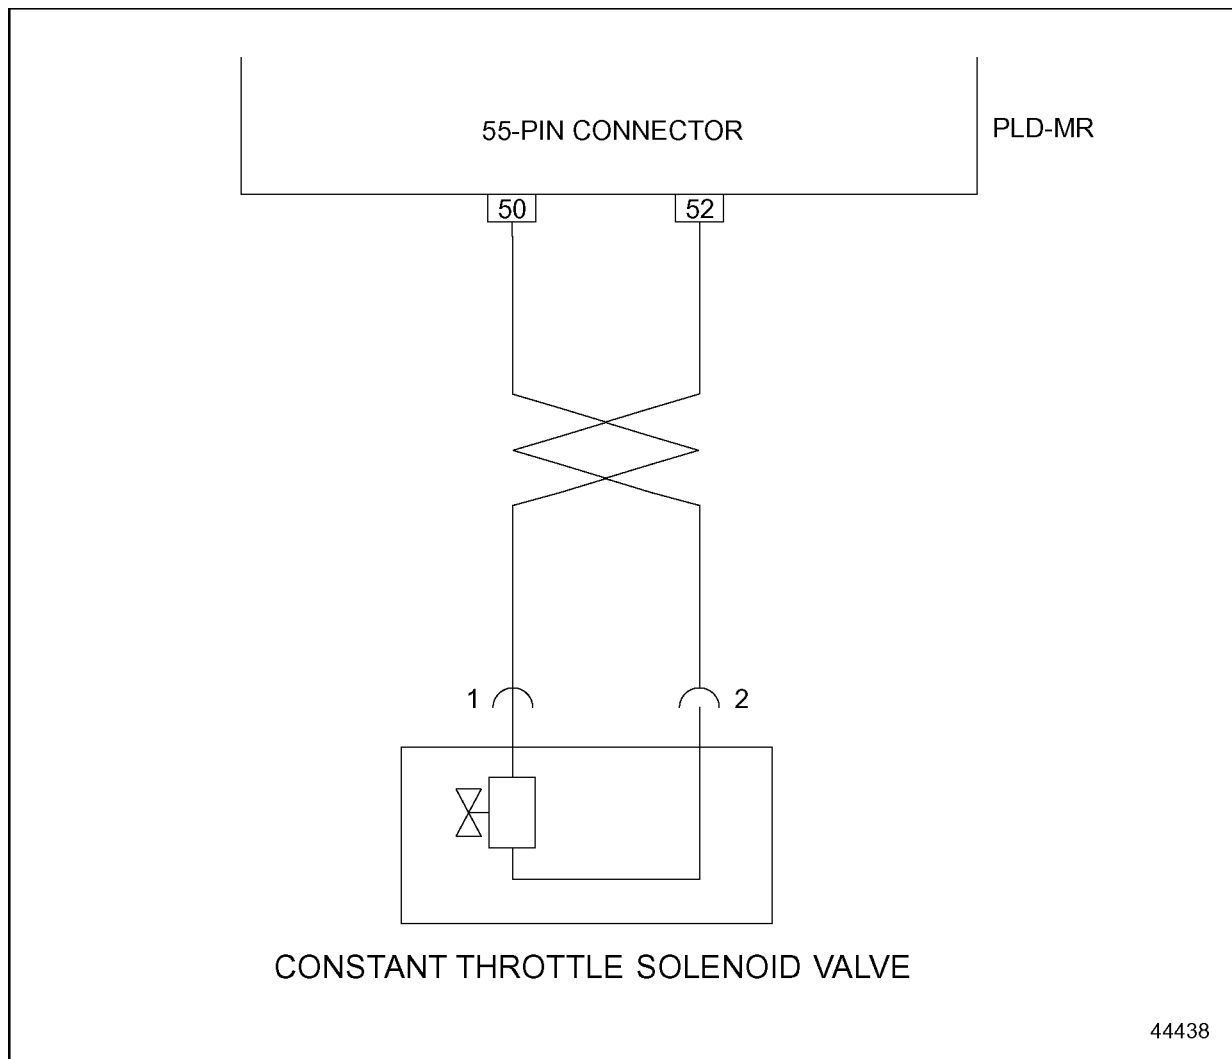

Figure 21-3 Constant Throttle Solenoid Valve Connector Wiring
- [a] If the engine has a constant throttle solenoid valve, repair short to power in 55-pin connector wire 50. Erase fault code memory. See Figure 21-3.
3. Bridge wires 1 and 2 on the constant throttle solenoid valve connector. See Figure 21-3.
4. Measure the resistance between wire 52 on the 55-pin connector and vehicle ground. See Figure 21-3.
5. Measure the resistance between wire 52 and wire 50 on the 55-pin connector. See Figure 21-3.
2. Measure the resistance between wire 50 on the 55-pin connector and vehicle ground. See Figure 21-3.
4. Measure the resistance between wire 50 and wire 52 on the 55-pin connector. See Figure 21-3.